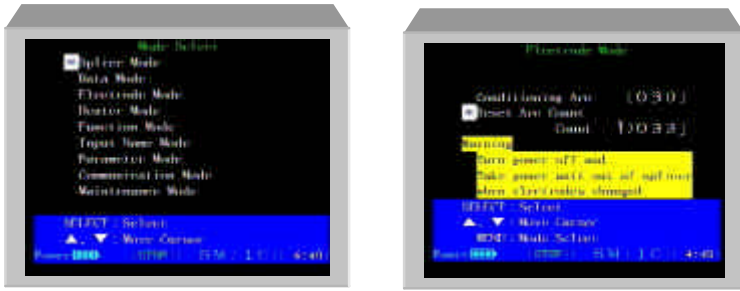

Figure 55. Displaying Electrode Mode Screen
3. Referring to Figure 55, choose ELECTRODE MODE and press "SELECT".